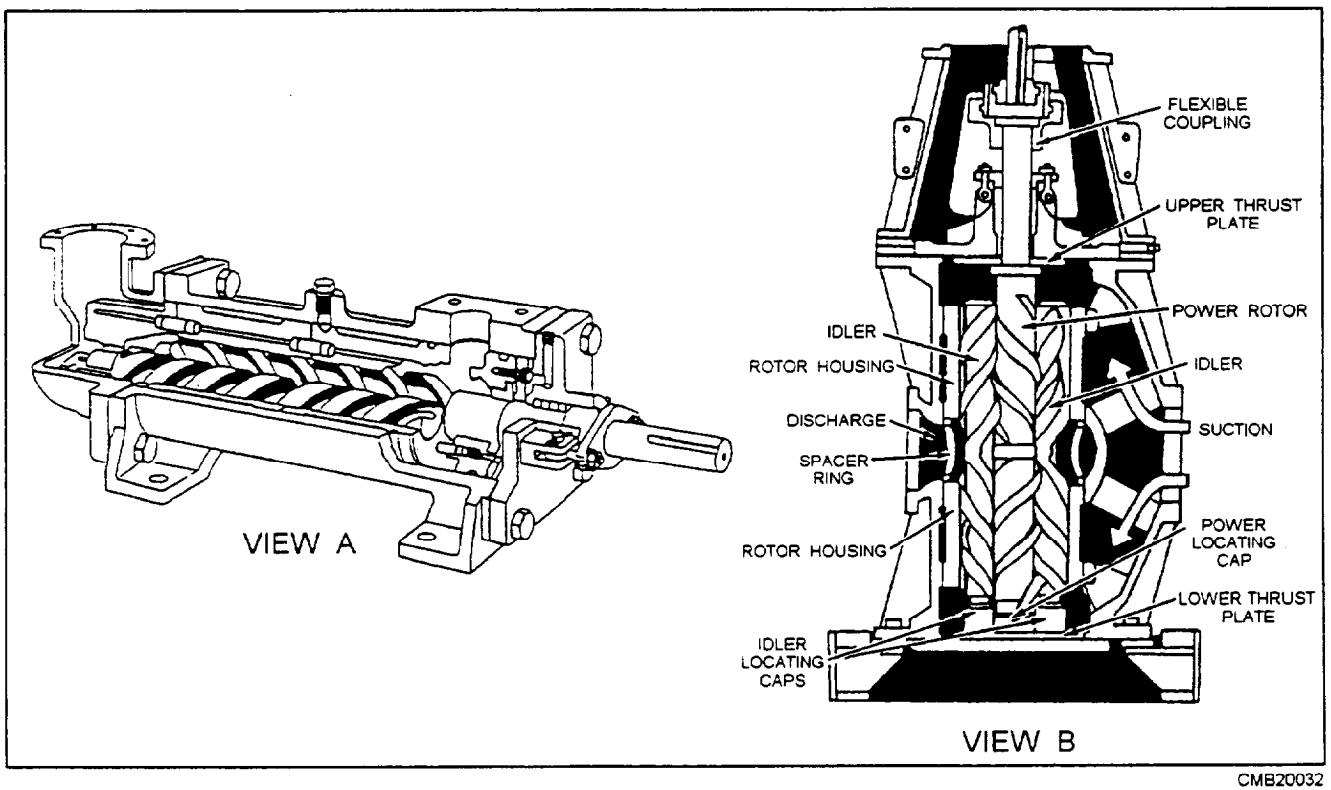
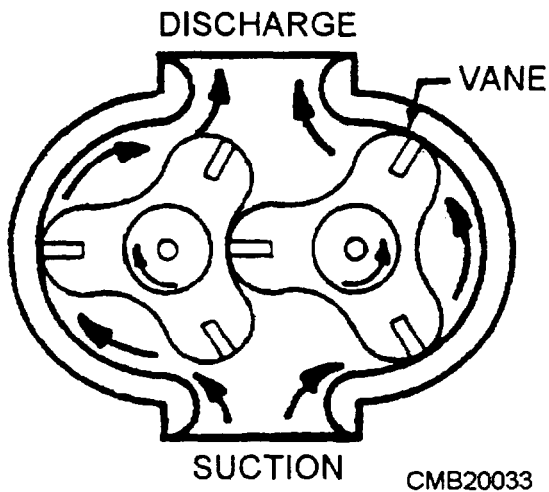
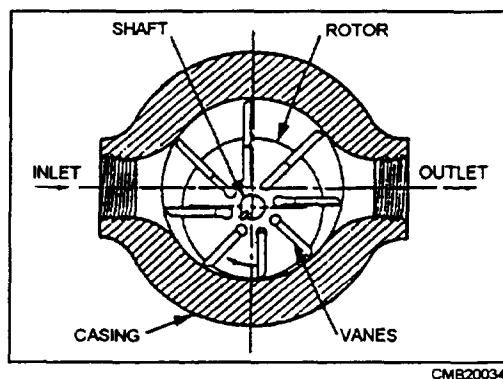

Figure 3-10.—Screw pump.
Figure 3-11.—Lobe pump.
Figure 3-12.—Vane pump.
**ROTARY PUMPS.**—All rotary pumps have rotating parts that trap the fluid at the inlet (suction) port and force it through the discharge port into the system. Gears (figs. 3-7, 3-8, and 3-9), screws (fig. 3-10), lobes (fig. 3-11), and vanes (fig. 3-12) are commonly used to move the fluid. Rotary pumps are positive displacement of the fixed displacement type.
Fluid motors are usually classified according to the type of internal element that is directly actuated by the flow. The most common element are the gear (fig. 3-7), the vane (fig. 3-12), and the piston (fig. 3-15).